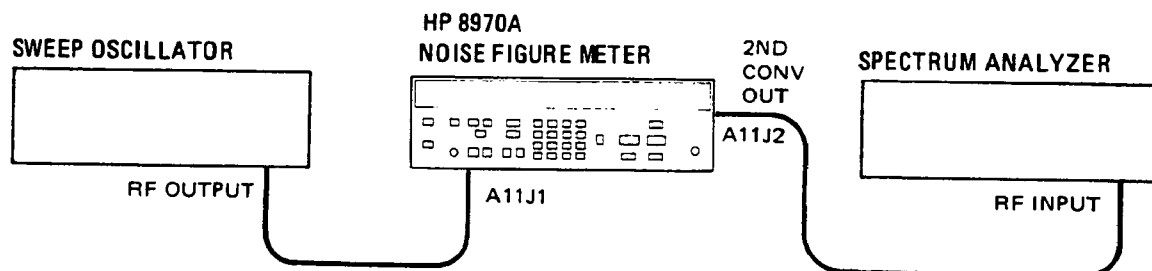

Figure 5-6. 2050 MHz Bandpass Filter Adjustment Setup
3. Connect the equipment as shown in Figure 5-6. Note that an error display on the Noise Figure Meter is normal when the signal path is broken.